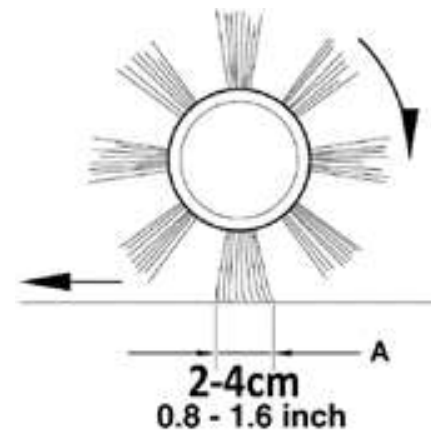

Figure1
-Check that the main brush print (A, fig. 1), along its length is 0.8 to 1.6 in (2 to 4 cm) wide.